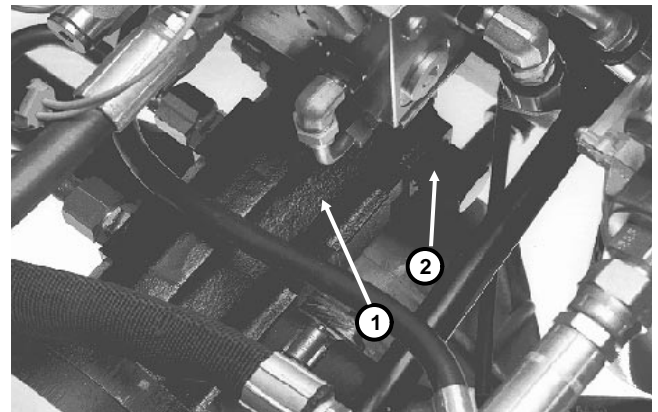

Figure 7b
11. If flow is lower than 3.5 GPM or a pressure of 1000 PSI cannot be obtained, check for restriction in pump intake line. Check relief valve in pump for contamination or wear. Adjust pump relief valve to 1250 PSI cracking pressure by removing cap and turning adjustment screw (Fig. 7b). If pump intake line is not restricted and relief valve is functioning properly, remove pump and repair or replace (see Pump Removal and Installation and Pump Repair in Mowing Circuit Repairs section of Chapter 4 - Hydraulic system).